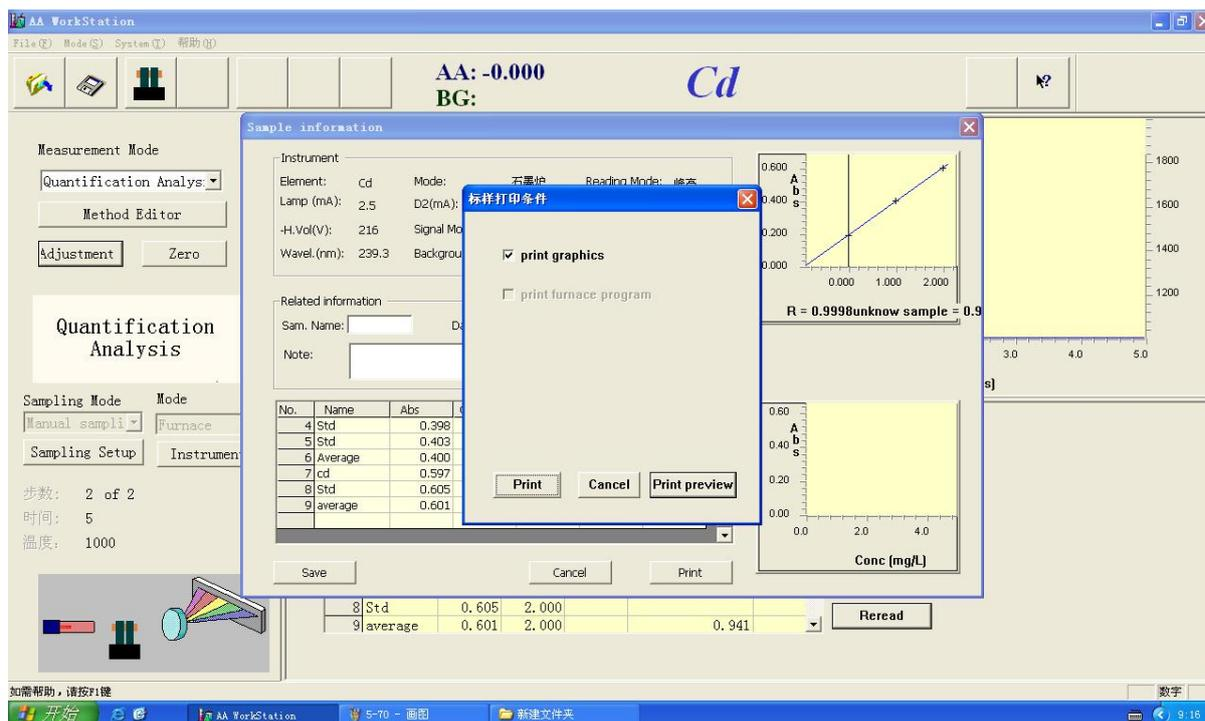

Figure 5-73
2. Press 【Print】 button, display the figure 5-73